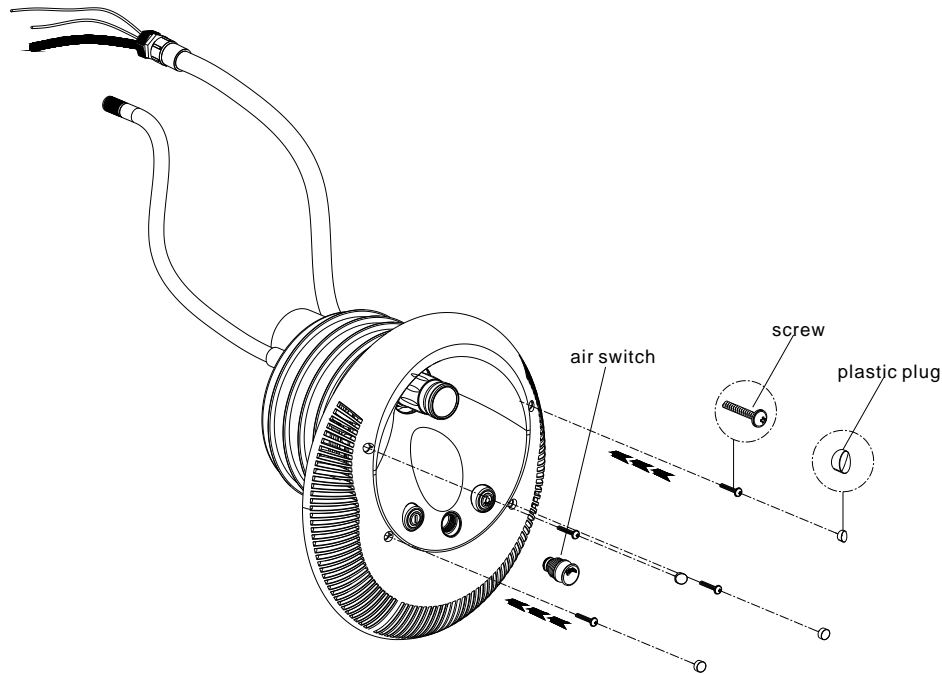

Figure 12
- Install the outer shell onto the support frame, fixed with 4 M5 screws, and then cork the screw hole using plastic cork. (Figure 12)